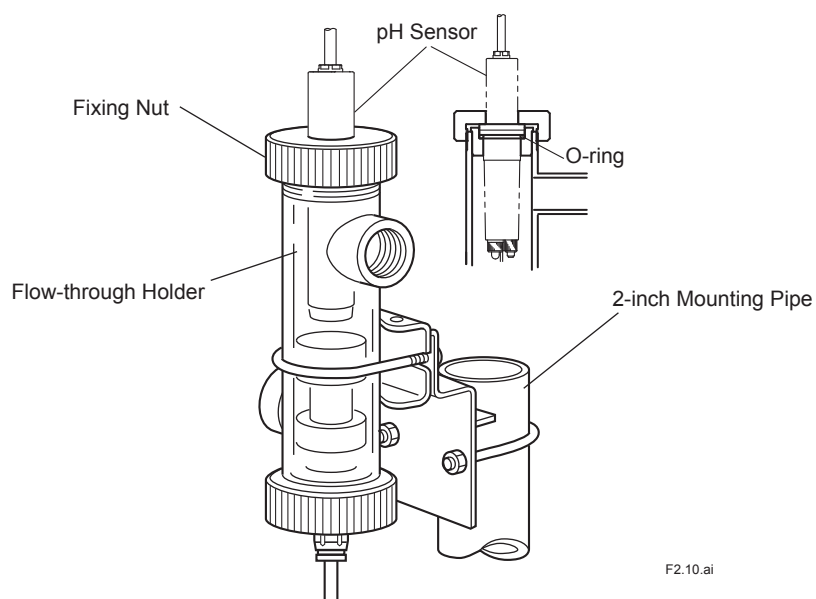

Figure 2.10 Installing Sensor in Flow-through Holder
- (2) Connect the pH sensor to its holder. Remove the protective cap from the sensor. Also remove the protective foam piece (for shipping - this is not necessary after installing the sensor) from the holder. Be sure that the liquid junction and glass electrode are mounted properly. Insert the sensor tip into the holder and tighten the sensor fixing nut securely (see Figure 2.10).